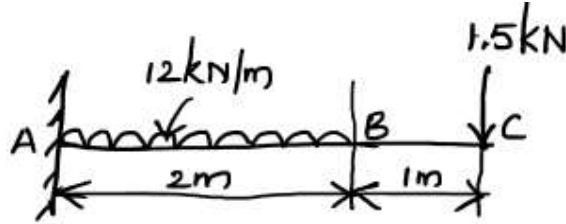

Fig. 7
- 8 a) A cantilever projecting 3 m from a wall carries a UDL of 12 kN/m for a length of 2 m from the fixed end and a point load of 1.5 kN at the free end as shown in Fig.7. Find the deflection at the free end using moment area method. Take  $I=1 \times 10^8 \text{ mm}^4$  and  $E=200 \text{ GPa}$ . [7]